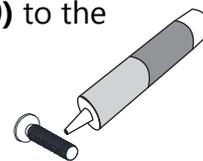

**Fig 24**
**24.** Secure the **Anti-Splash Threshold (#11)** to the threshold with several pieces of painter's tape to hold it tight to the threshold until the silicone fully cures. **(Fig 24)**